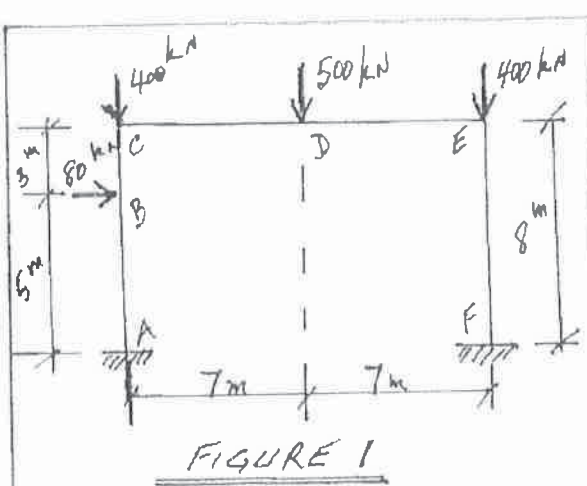

FIGURE 1
1. (a) Using the Plastic Method of Design, determine the size of the members of the rigid steel frame in Figure 1.
2. For the loaded steel rigid frame in Figure 1: